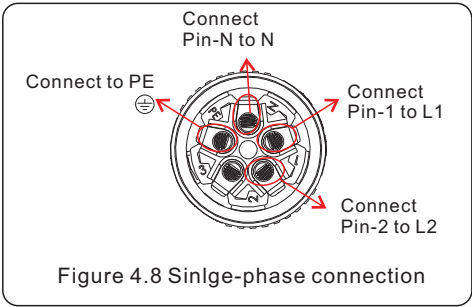

Figure 4.8 Single-phase connection
- b. Connect L1, L2, L3, N and PE to pins 1, 2,3, N and PE. (see figure 4.8)